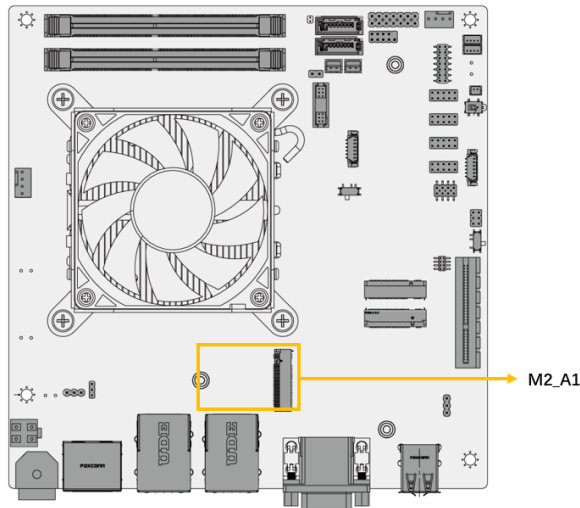

Figure 3-16: M.2 A-key Slot Location
- CN Location:** See Figure 3-16